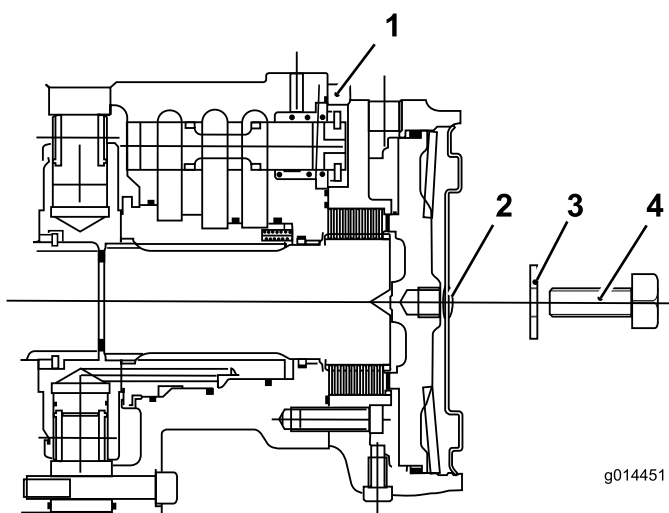

Figure 34
7. Assemble a bolt 12 x 40 mm and washer 12 mm into the hole at the center of the motor end plate (Figure 34).
8. Tighten the bolt in the threaded hole in the brake piston until the brake releases (Figure 34).